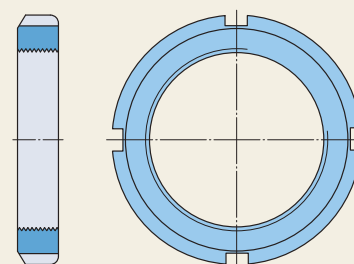
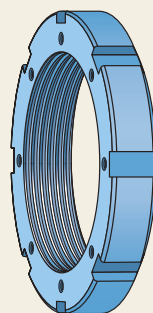

Fig. 3
Fig. 9
- using a W lock washer (fig. 3) are available up to and including size 44 (thread diameter 8.628 in.)
- Lock washers (fig. 3, page 1093) engage a keyway in a shaft, or adapter sleeve thread. The washer locks the nut in position when one of the washer tabs is bent into one of the slots on the nut's outside diameter (fig. 9).